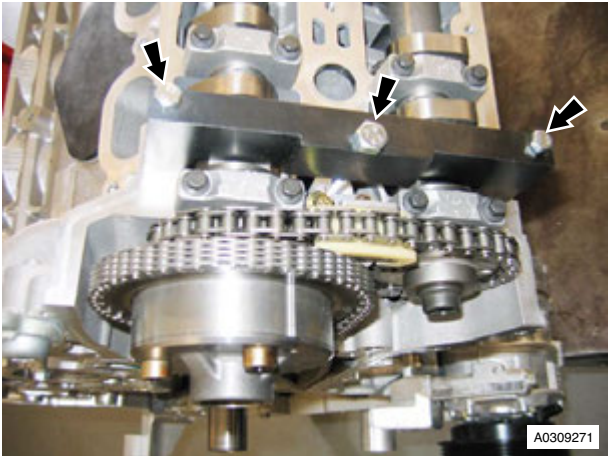

Figure 1
3. Remove the special tool (refer to Figure 1 - Left side shown)..